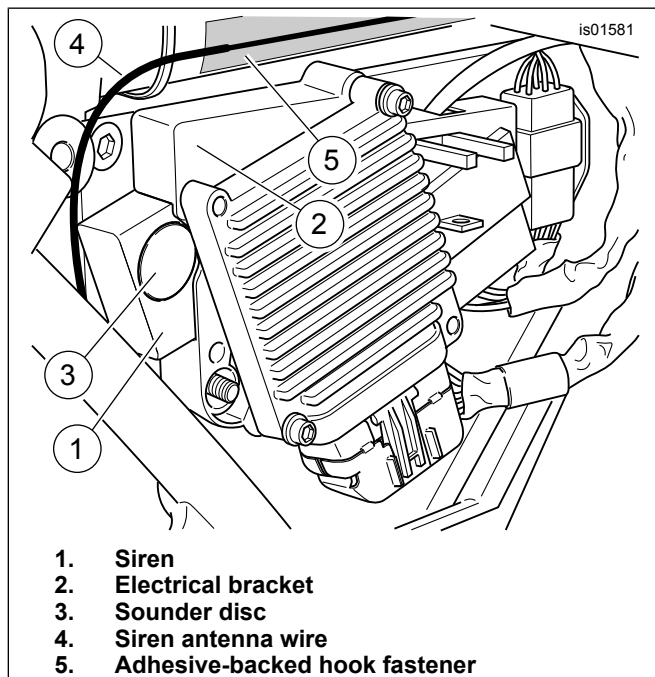

Figure 14. Siren and Electrical Bracket Installed (2002-2007 FL Touring Models)
7. See Figure 14. Install the electrical bracket assembly with siren back onto the studs on the side of the battery box. Install the two flange nuts onto the studs.